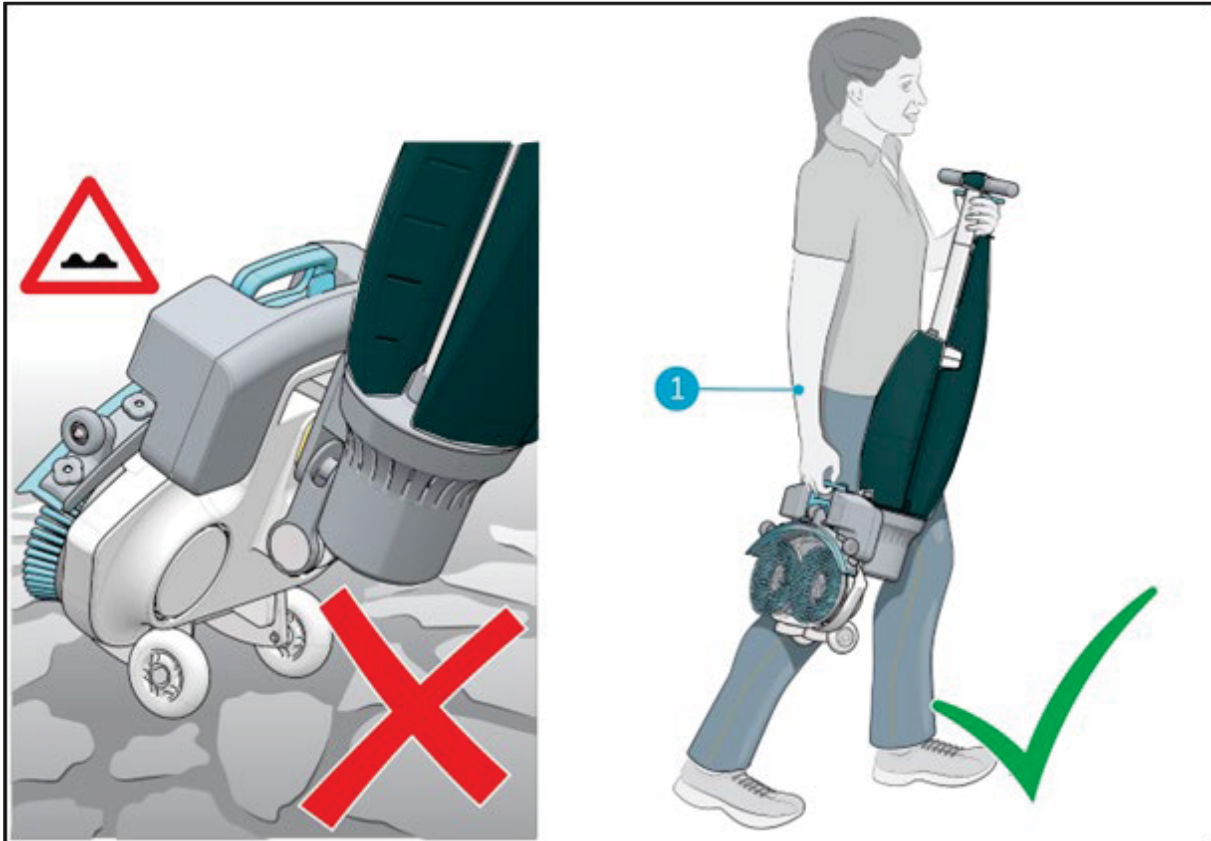

Figure 6
2. Carry the i-mop® Lite with one hand while holding the handle (Figure 6, pos 1) with your other hand.